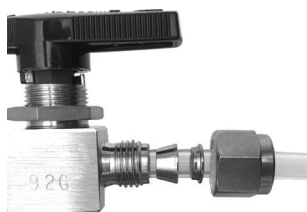

Figure 11. How to slide the nut and ferrules onto the tubing.
1. Slide the nut and ferrules onto the tube as shown in Figure 11.